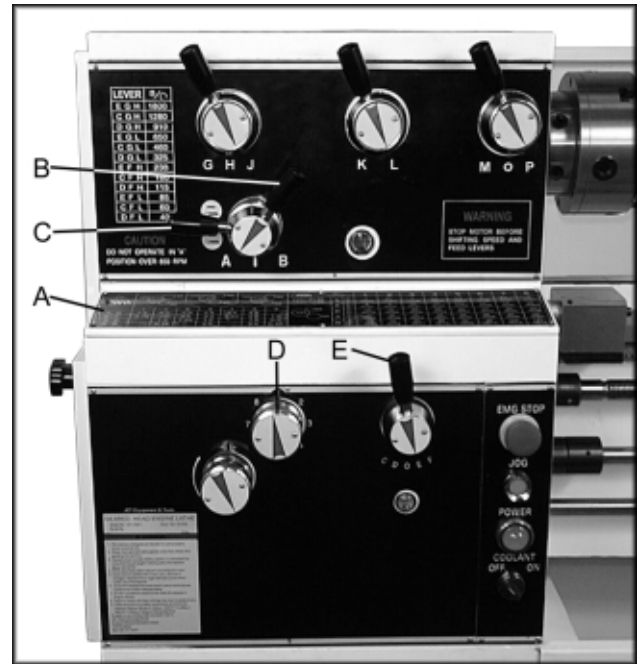

Fig. 17
1. Reference the feed and thread found on the gear box faceplate tables (A, Fig. 17 & page 22 of manual).
2. Move levers (B, C, D, E & F, Fig. 17) to the appropriate positions according to the chart.
The 30T, 32T, and two 40T gears found in the tool box are used with different combinations as indicated on feed and thread tables (A, Fig. 17).